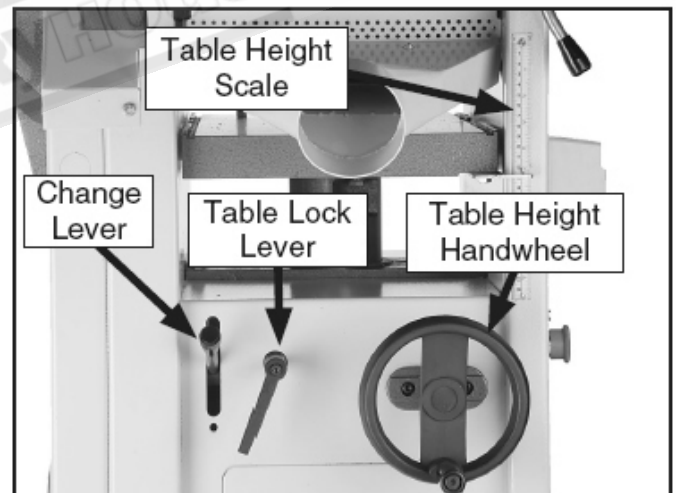

Figure 19. Planer table control locations..
Table Height Handwheel: To move the planer table, rotate the table height handwheel (**Figure 19**).
9. Flip the change lever (**Figure 19**) up. To change the machine for jointer operations: